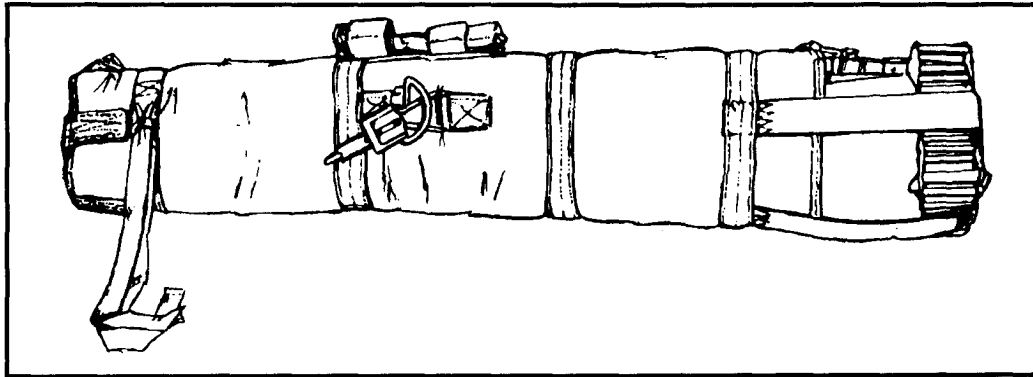

Figure 12-52. Running ends secured.
(3) Insert the cone-shaped end of the shock absorber into the launch tube aft end.
(4) Position the 8-inch square honeycomb on the shock absorber flat surface. If not already done, thread the end of the securing strap through the launcher aft end securing strap keeper. Route the two aft end securing straps over the cardboard honeycomb through each quick-fit adapter and tighten, then thread the end through the adapter, forming a quick-release fold. Fold excess securing straps back under the corresponding quick-fit adapter (Figure 12-52).
(5) Route the launcher forward end securing strap under the nonadjustable cross D-ring strap through the quick-fit adapter and tighten. Then thread the end through the adapter, forming a quick-release fold. Fold excess securing straps back under the corresponding quick-fit adapter.